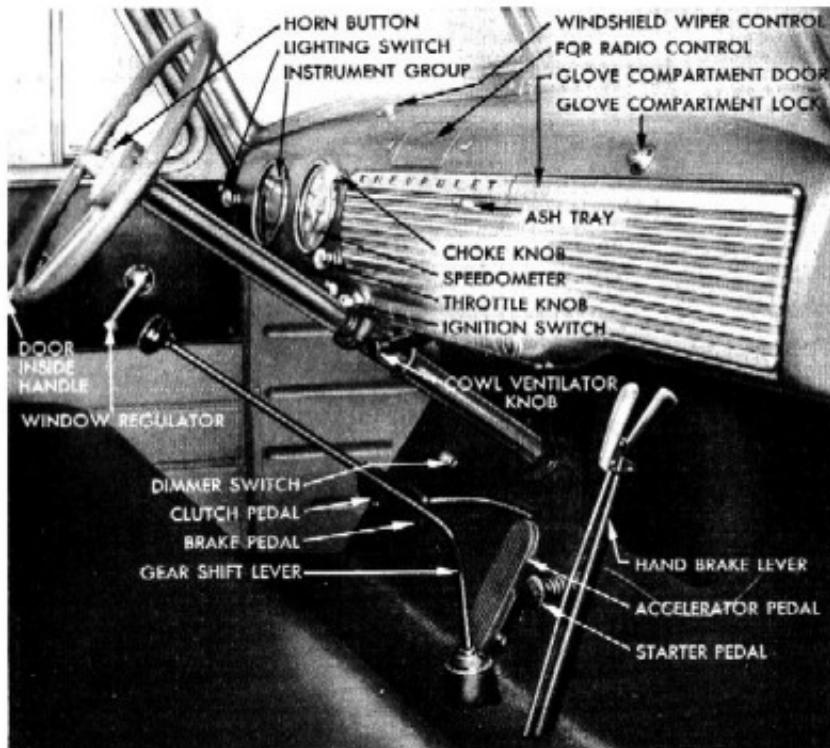
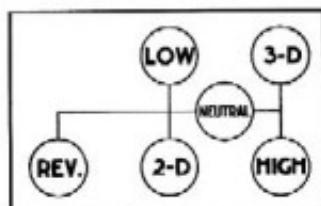
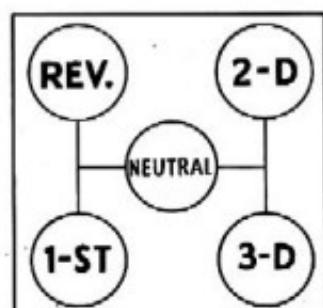

Fig. 2—Controls and Instruments—1 1/2 and 2 Ton
Fig. 11—Four Speed Transmission Shifting Diagram
Fig. 12—Three-Speed Transmission Shifting Diagram
is mounted at the rear of the transmission. The brake is hand operated with the lever extending up through the floor to the right of the gearshift lever on 1½ and 2 ton except C.O.E. (fig. 2). On C.O.E., the hand lever is to the left of the clutch pedal. Pulling the parking brake lever back, applies the propeller shaft brake by means of mechanical linkage. To release the brakes, grip the two sections of the handle and pull lever back slightly, then move it forward.
Gearshift Lever (4-speed Synchro-mesh Transmission) extends to the left and back from transmission cover dome at center of floor (fig. 2). This lever is used to shift the transmission gears to the desired position. Figure 11 shows the lever knob positions when the transmission is in neutral, reverse and the four forward speeds. To shift the transmission into any of the forward speeds, disengage the clutch, move the lever across neutral to right or left as desired, and then forward or back into gear.
Figure 12 shows the gearshift pattern in neutral, reverse and three forward speeds. To shift into any gear position, disengage the clutch, move the shift lever up
2. Move gearshift lever into low gear position. (If 4-speed transmission see Figure 11, or if 3-speed transmission see Figure 12.)
1. Depress clutch pedal and release accelerator at the same time. Move the shift lever into neutral and then to the next higher gear. See shifting diagrams, Figures 11 and 12.
2. Move shift lever across neutral to left, against the spring tension as far as it will go. Move lever back into reverse (fig. 11).
2. Raise shift lever up across neutral and forward into reverse position. (fig. 12).